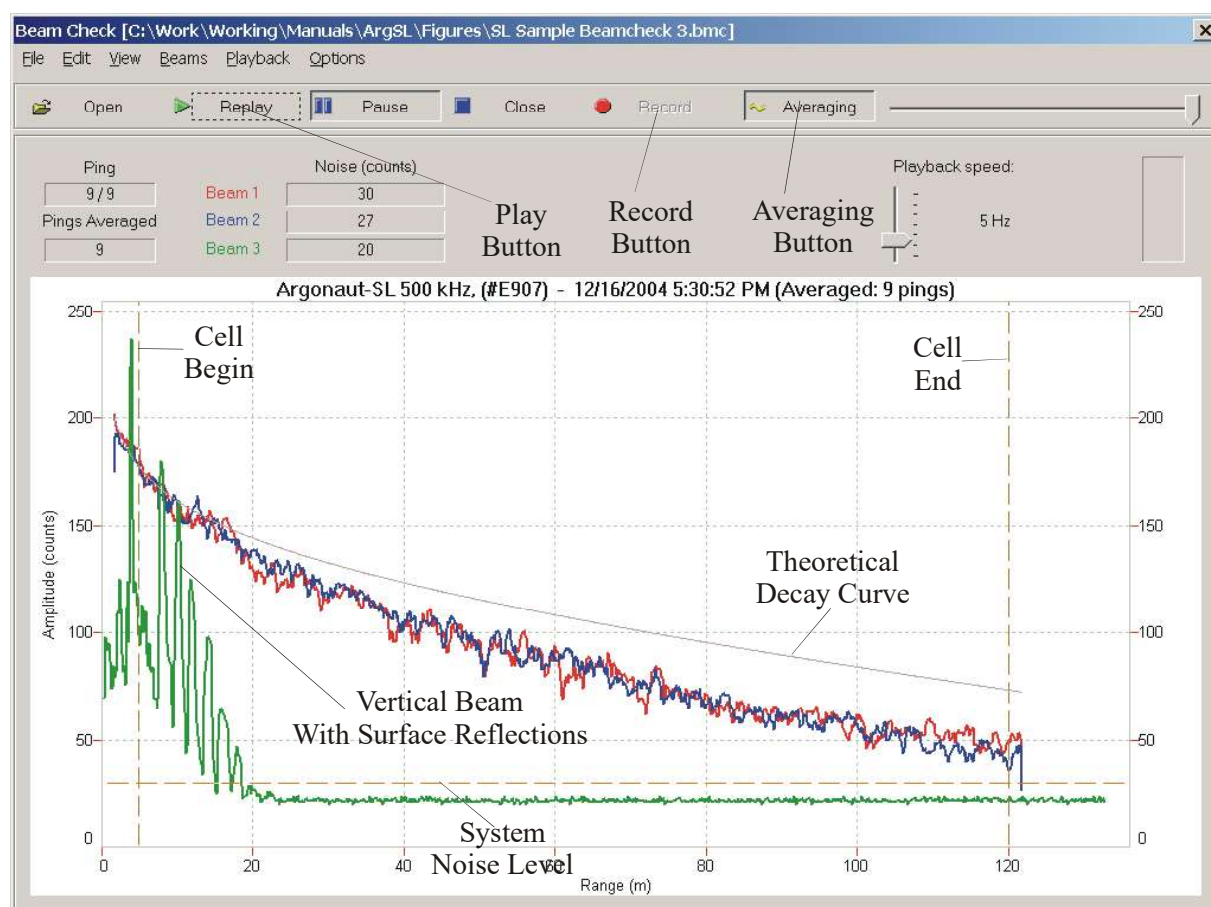

Figure 5-25. Beam Check Sample Output #3
Figure 5-25 (*Beam Check* in *SonUtils*) shows a sample output from an SL installation. Detailed analysis of this example is given here. For other examples, see Sample Output Description #1 (page 63) and Sample Output Description #2 (page 64).
- Acoustic signal strength is an indicator of the maximum measurement range of the system. In this example (Figure 5-25), the signal strength is well above the noise floor for the entire measurement range.